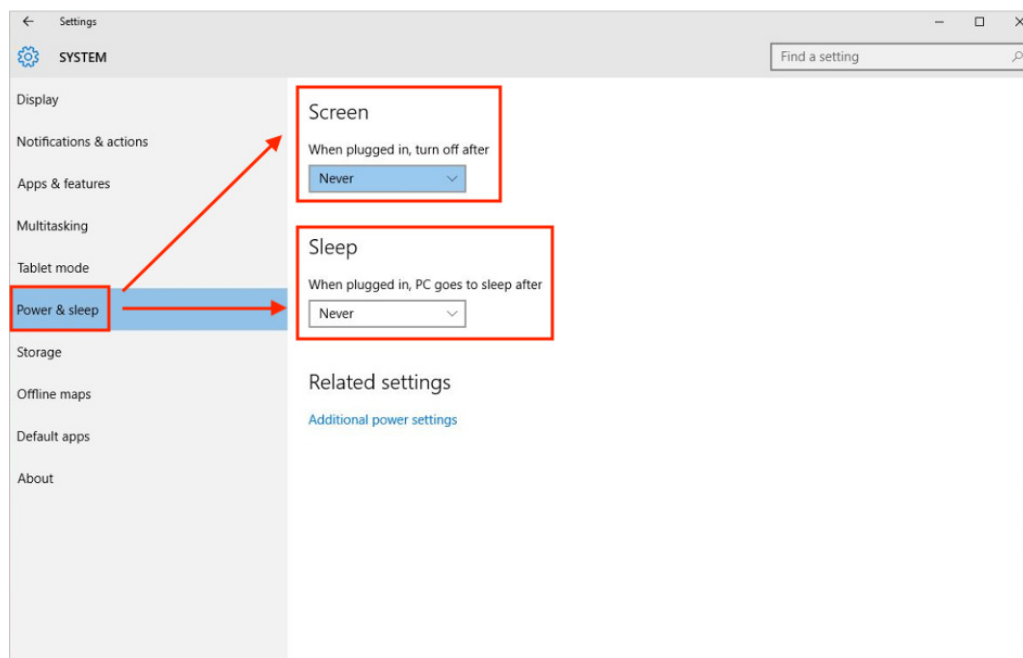

Figure 23. In the **Power & sleep** settings, configure both **Screen** and **Sleep** to **Never**.
- 10 Open the **Power & sleep** settings (Figure 23). Configure this setting to **Never** go to sleep when plugged in. (Select **Never** for both **Screen** and **Sleep** settings).